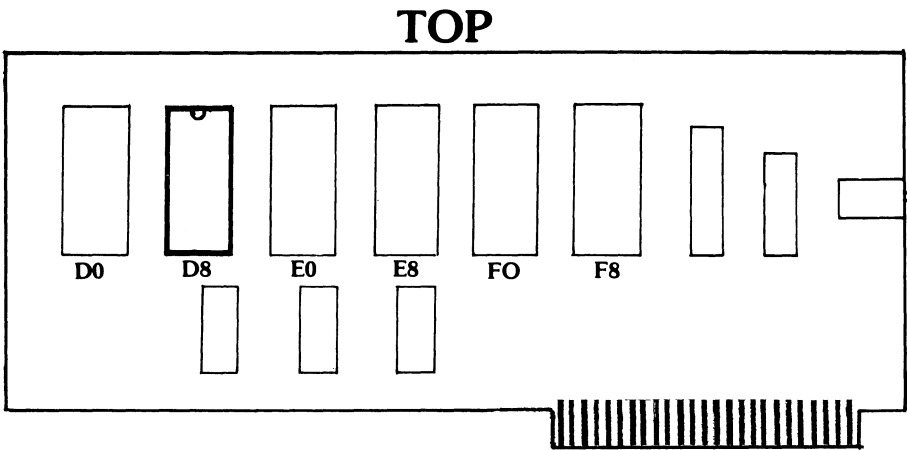

Figure 2
- Orient the EPROM with its notch towards the top of the INTEGER FIRMWARE CARD. See Figure 2.